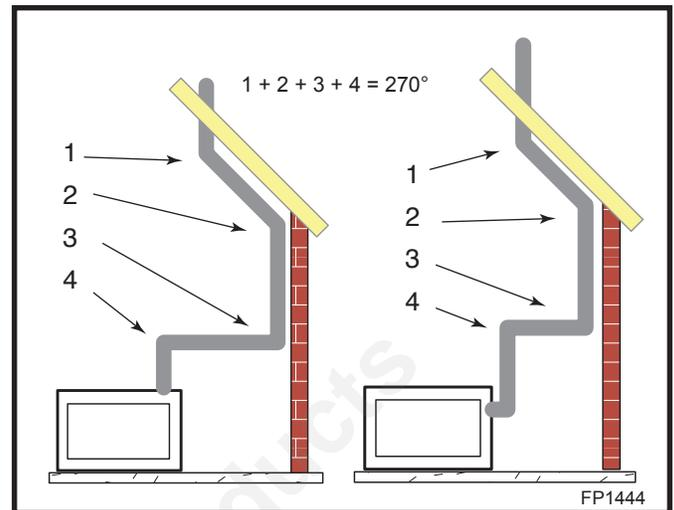

Fig. 31 Maximum elbow usage.
- The maximum angular variation allowed in the system is 270°. (Fig. 31)